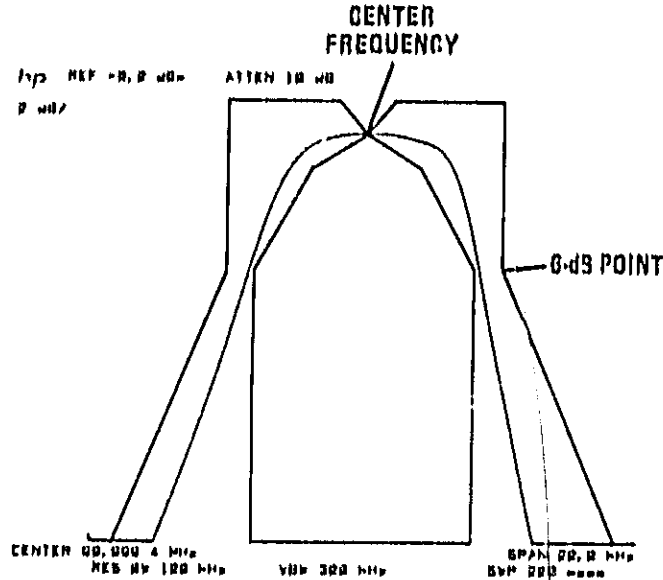

Figure 5-6. Error Limits for 9-kHz Bandpass Filter
12. Adjust A4R10 9 kHz AMPTD to set displayed response at center frequency point of graph. Figure 5-6 shows a typical response, which must be within CISPR error limits graph.
13. Check that response is within CISPR error limits displayed on CRT (Figure 5-6).